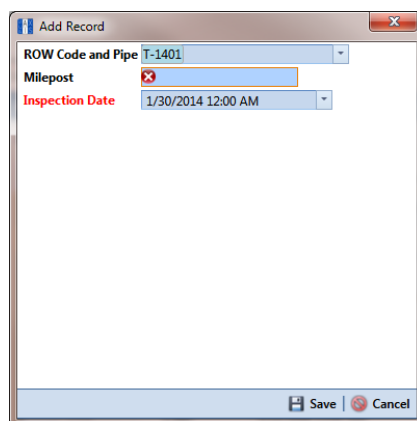

Figure 7-17. Add Record
- b** Click  **Save** to display required field(s) for data entry. Required fields are identified with the  icon, such as *Milepost* in the following figure (Figure 7-17).